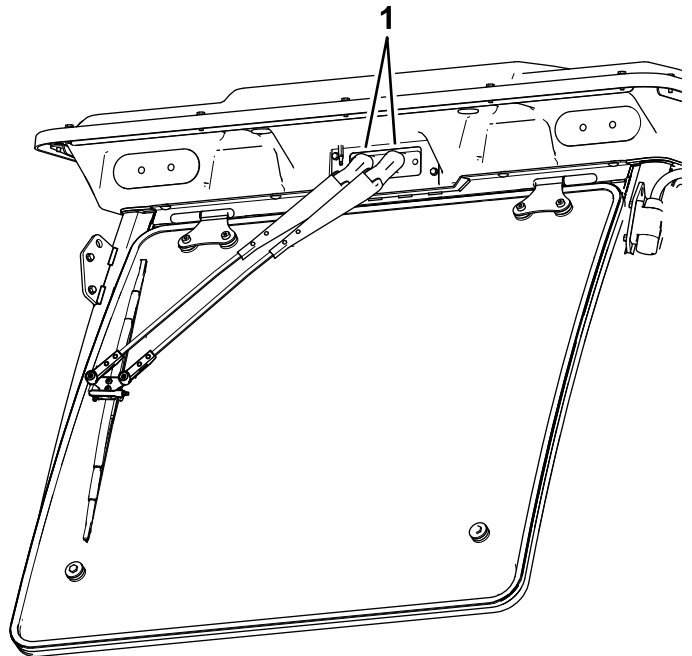

Figure 147
1. Open the caps at the top of the wiper arms (Figure 147).